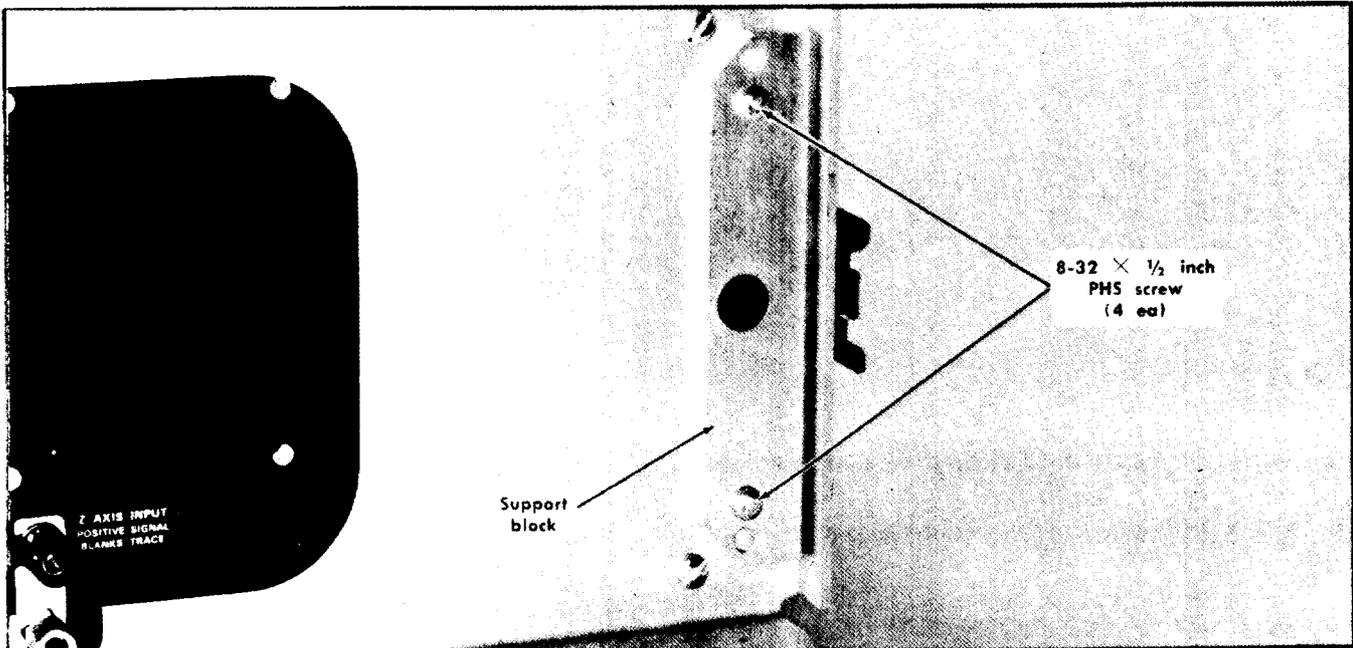

Fig. 10-8. Installing the support block on the Instrument.
5. Install a support block on each side of the instrumental shown in Fig. 10-8.